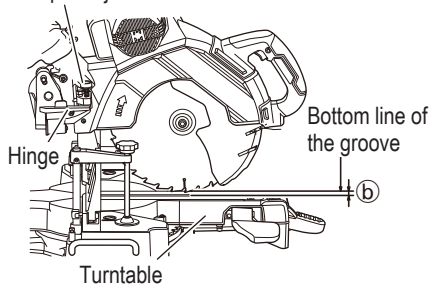

Fig. 45
- (1) Lower the motor head, and turn the 6 mm depth adjustment bolt by hand shown in Fig. 45. (Where the head of the 6 mm depth adjustment bolt contacts the hinge.)